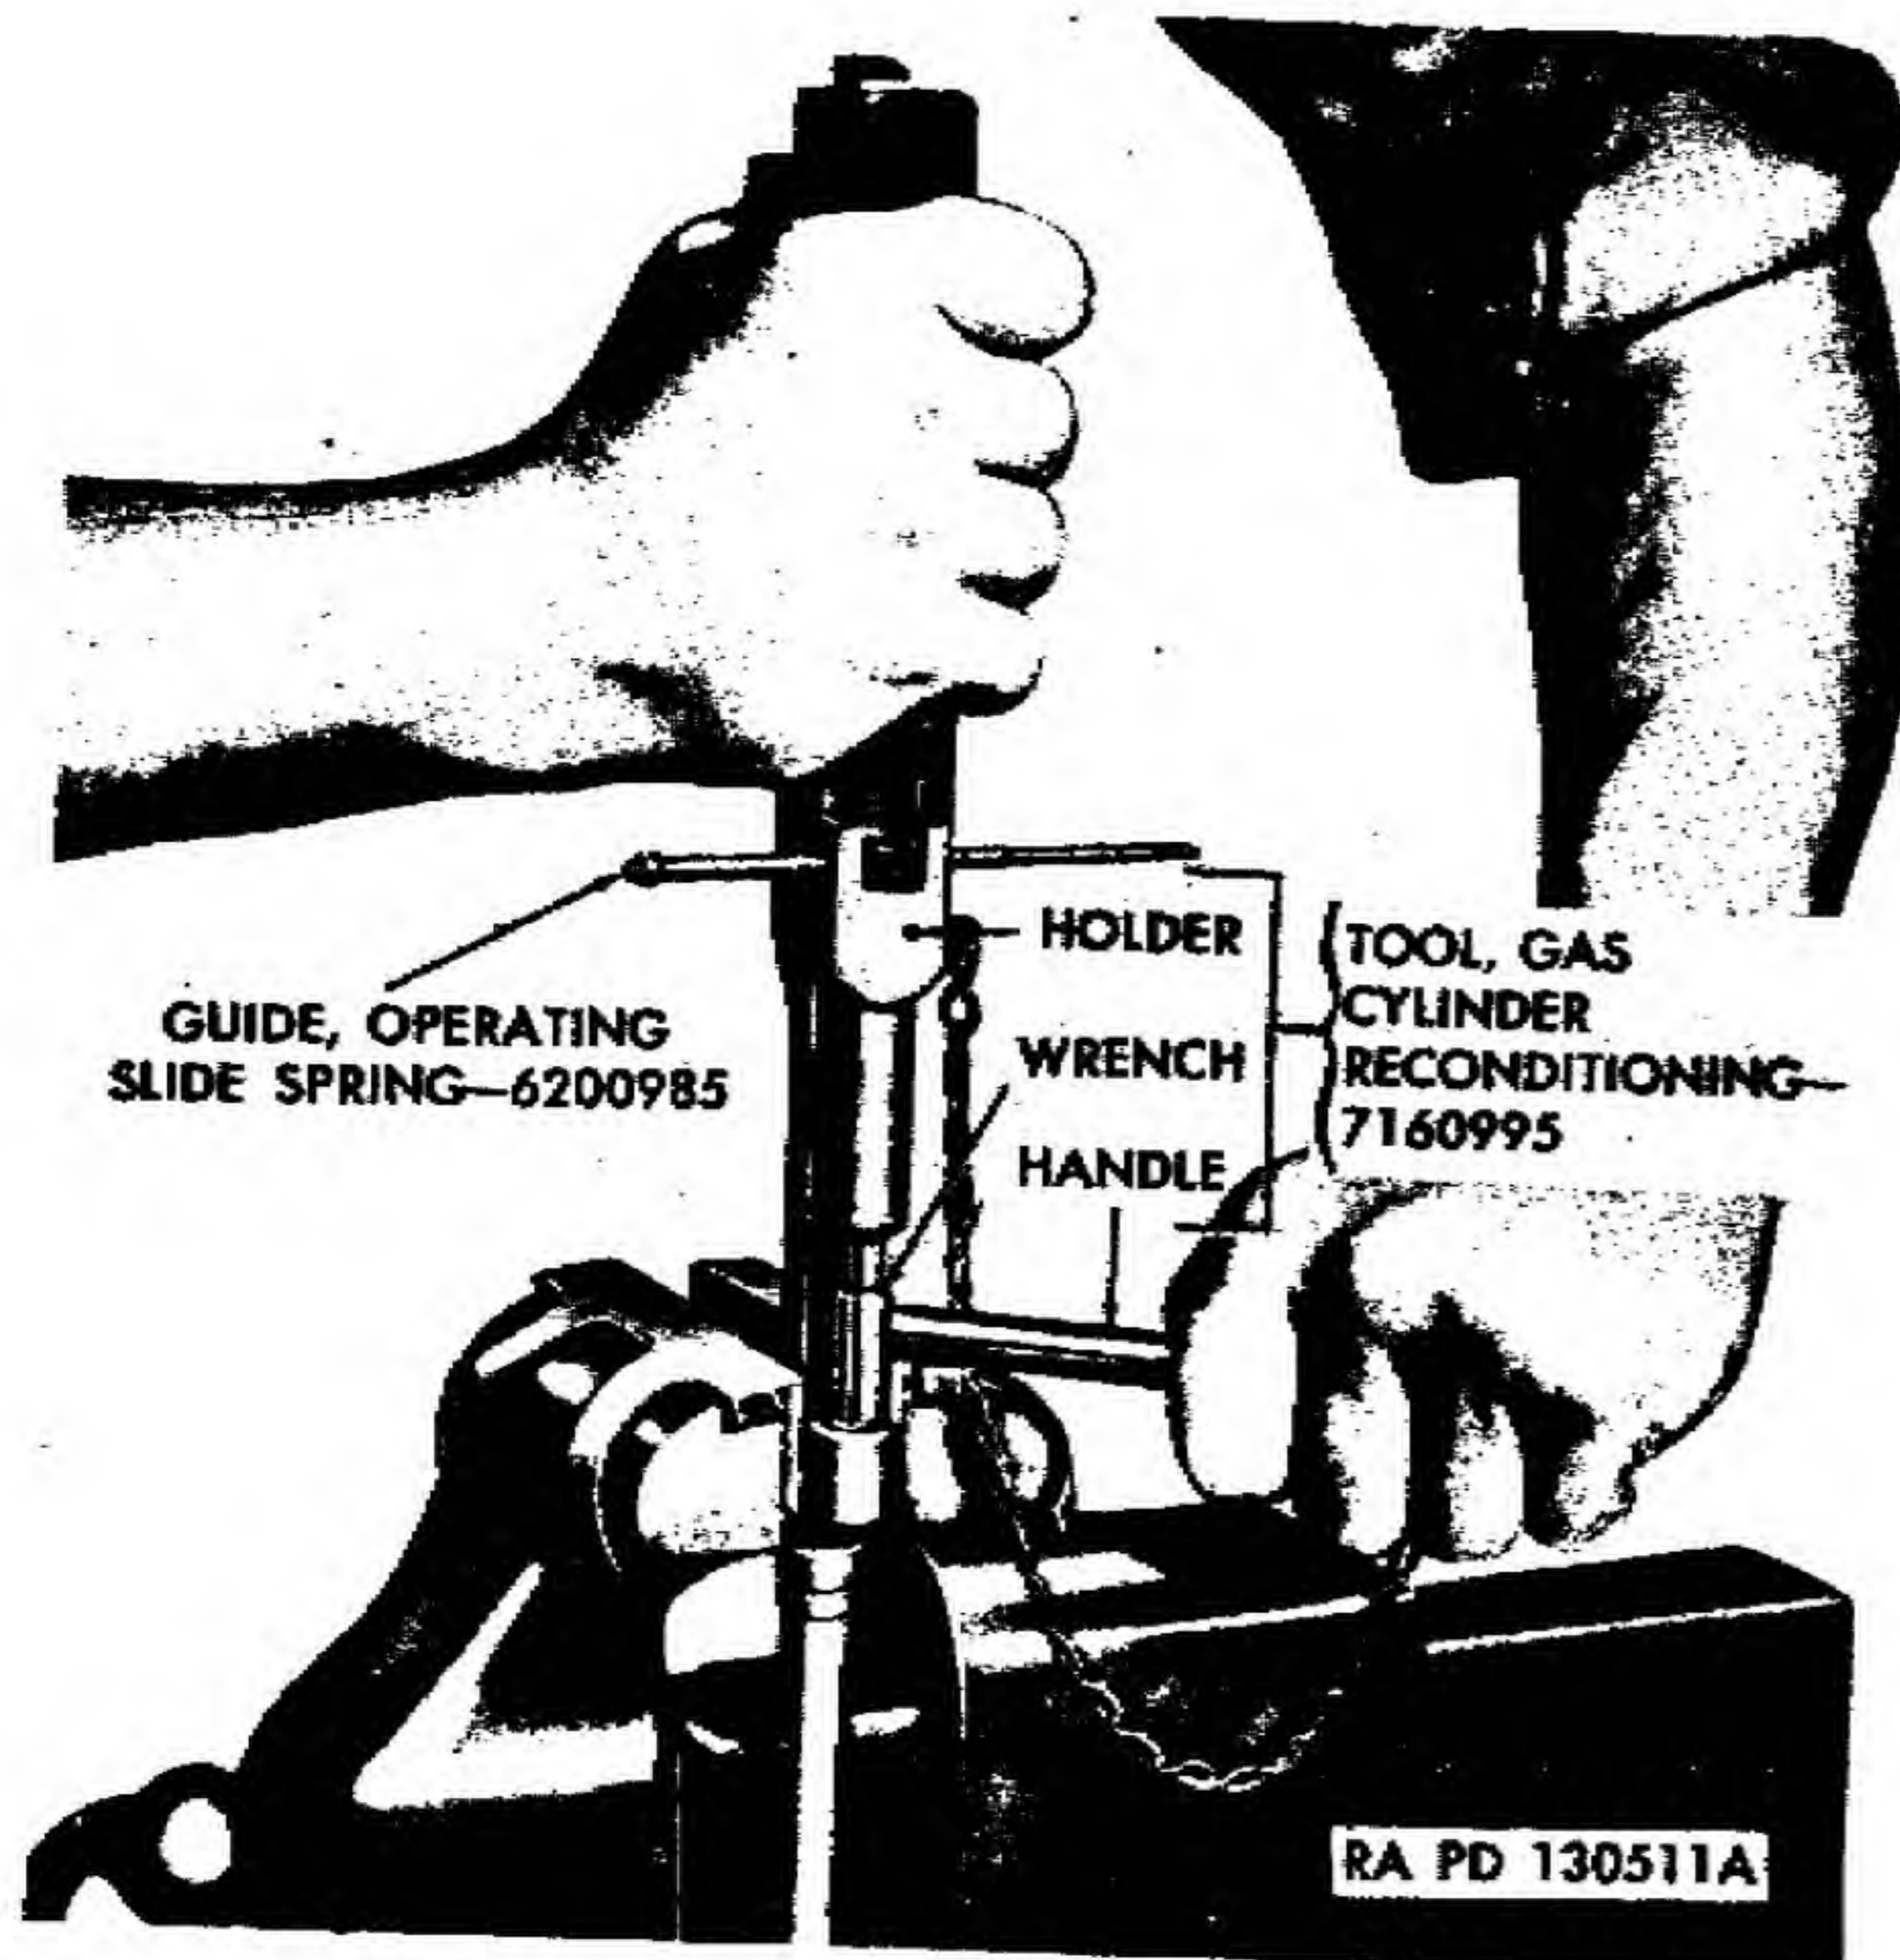

Figure 77. Removing piston nut from gas cylinder.
- (1) The gas piston and piston nut are the only removable parts of the gas cylinder group. To remove the piston, clamp the barrel firmly in a vise with protected jaws, and using gas piston nut removing tool M5 5621065 or gas cylinder reconditioning tool 7160995 (fig. 6) (with wrench component), unscrew the piston nut counterclockwise from gas cylinder (fig. 77). Take care not to burr or twist prongs on nut when removing (nut is staked in place) or piston will not move freely. Remove nut, elevate muzzle of barrel, and slide piston out of gas cylinder. If necessary, tap cylinder lightly with a wooden block to slide piston out. If nut does not loosen readily, soak with preservative lubricating oil, special, for about an hour to loosen. Oil can be dropped through gas port drill hole in gas cylinder.
- (2) If piston becomes "frozen" in the gas cylinder due to carbon or rust, soak with preservative lubricating oil (special) for about an hour and then work out of cylinder. When the nut and piston are removed, clean gas cylinder and piston thoroughly and oil lightly.